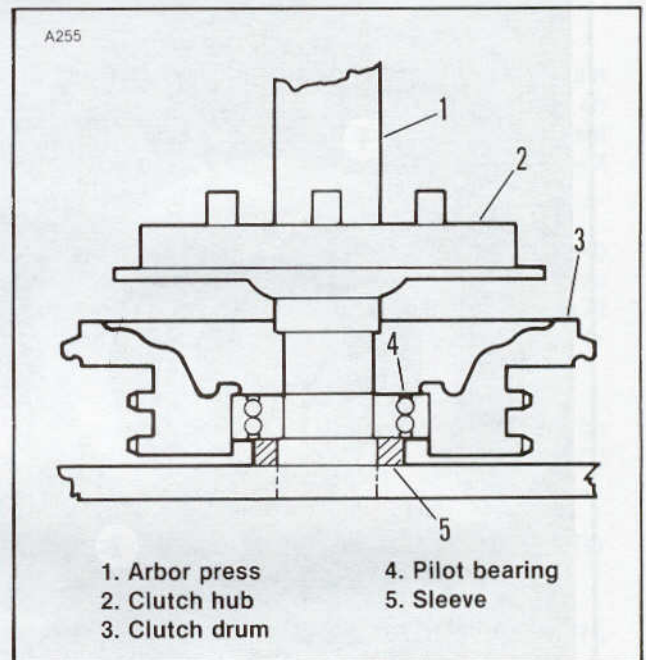

Figure 6-17. Pressing Hub into Pilot Bearing
2. See Figure 6-17. Place drum (shell) (3) on arbor press with pilot bearing inner race supported by a sleeve (5). Press hub (2) into bearing until hub shoulder contacts pilot bearing.